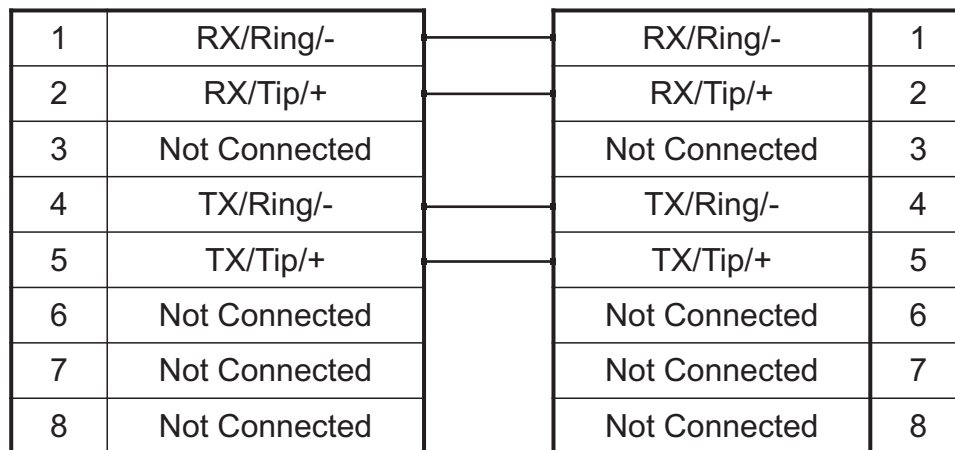

Figure 2.5 RJ48 Wiring Schematic
- Your TMG5800 features 16 modular 8-conductor RJ48 type jacks for connection to T1/E1/J1 lines. You will need one cable for each (T1/E1/J1) interface on the TMG5800. If you are making your own cables, refer to figure 2.5 on page 14 for crossover or straight cable wiring connections.
A TMG5800 with 16 RJ48 type ports enables the connection to T1/E1/J1 lines. The termination impedance is set at 100 ohms for T1 lines and 120 ohms for E1 lines. It is possible to connect an external balun in order to convert to 75 ohms. See figure 2.4 on page 13. If you are making your own cables, refer to figure 2.5 on page 14 for crossover or straight cable wiring connections.